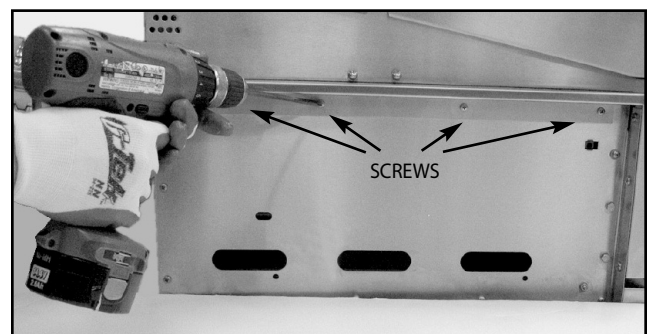

Fig. 38
- First you will need to remove the angle brackets from the side of the unit and replace them with cart mount brackets (Fig. 38). Unit is shipped prepared for island installation.